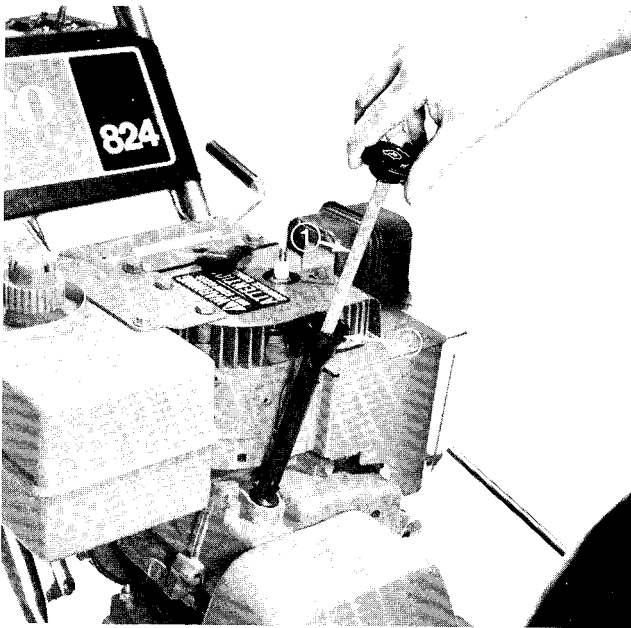

Figure 14
3. Remove dipstick from crankcase (Fig. 14).
4. Slowly, pour SAE 5W-30 or SAE 10 oil into the filler hole (Fig. 14), using oil fill chart below. The engine uses any high-quality detergent oil having the American Petroleum Institute — API — "service classification" SC, SD, or SE.